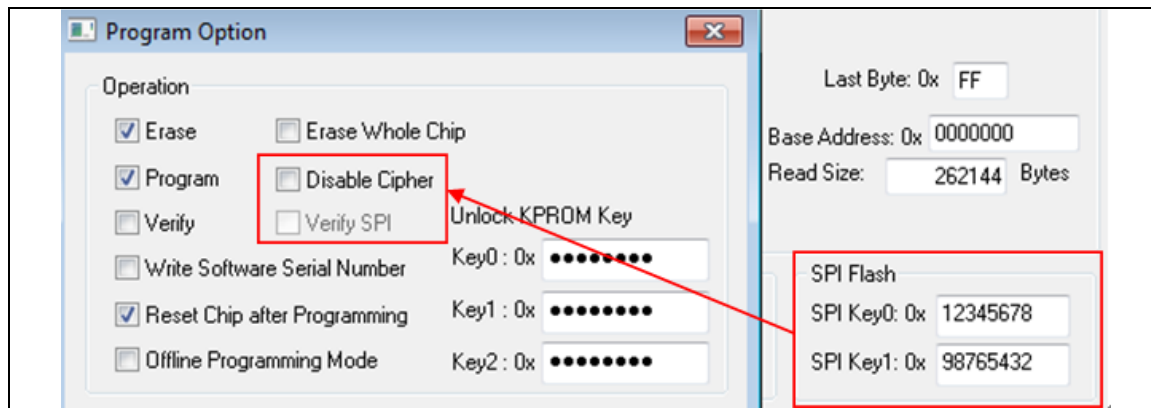

Figure 8-8 Encrypted Data Setting for SPI Flash Programming
If SPI key0 and key1 value is not 0, ICP tool will use SPI key0 and key1 to encrypt binary file and program to SPI Flash. Due to the SPI Flash data is ciphertext, the “**Verify SPI**” option disable in Program Option form in Figure 8-8.
User can also keep the SPI key value and program data to SPI Flash without encrypting binary file by checking the “**Disable Cipher**” option in Figure 8-8.